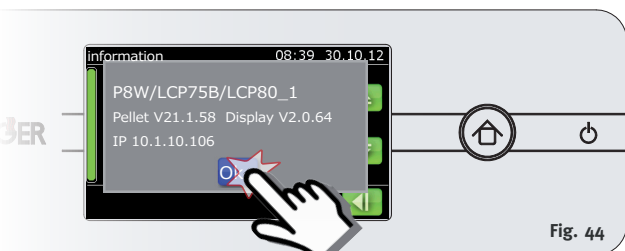

Fig. 44
2. Confirm the entry with OK (Fig. 44).